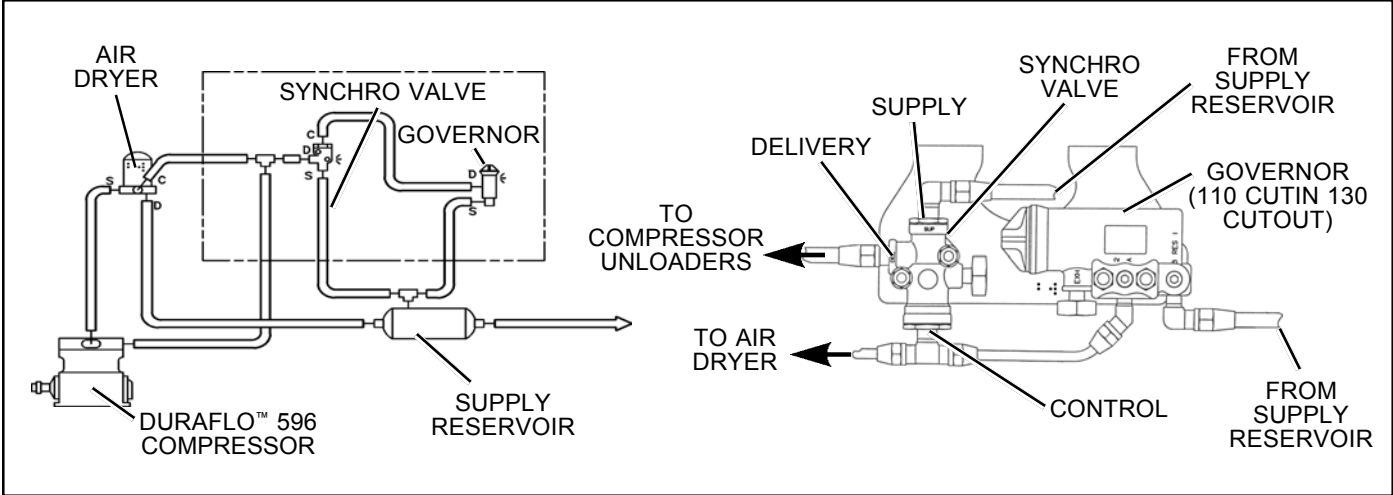

FIGURE 3 - DURAFLO™ 596 AIR COMPRESSOR UNLOADER SYSTEM
The compressor is driven by the vehicle engine and functions continuously while the engine is in operation. Actual compression of air is controlled by the compressor unloading mechanism operating in conjunction with a remote mounted governor and synchro valve. Unlike the Tu-Flo® compressor series, the DuraFlo™ compressor requires the addition of a synchro valve to assure proper operation and service life. The governor and synchro valve combination maintains brake system air pressure between a preset maximum and minimum pressure level. Refer to Figure 3.
1. Make certain the unloader system contains both the governor and synchro valve as illustrated in figure 3.